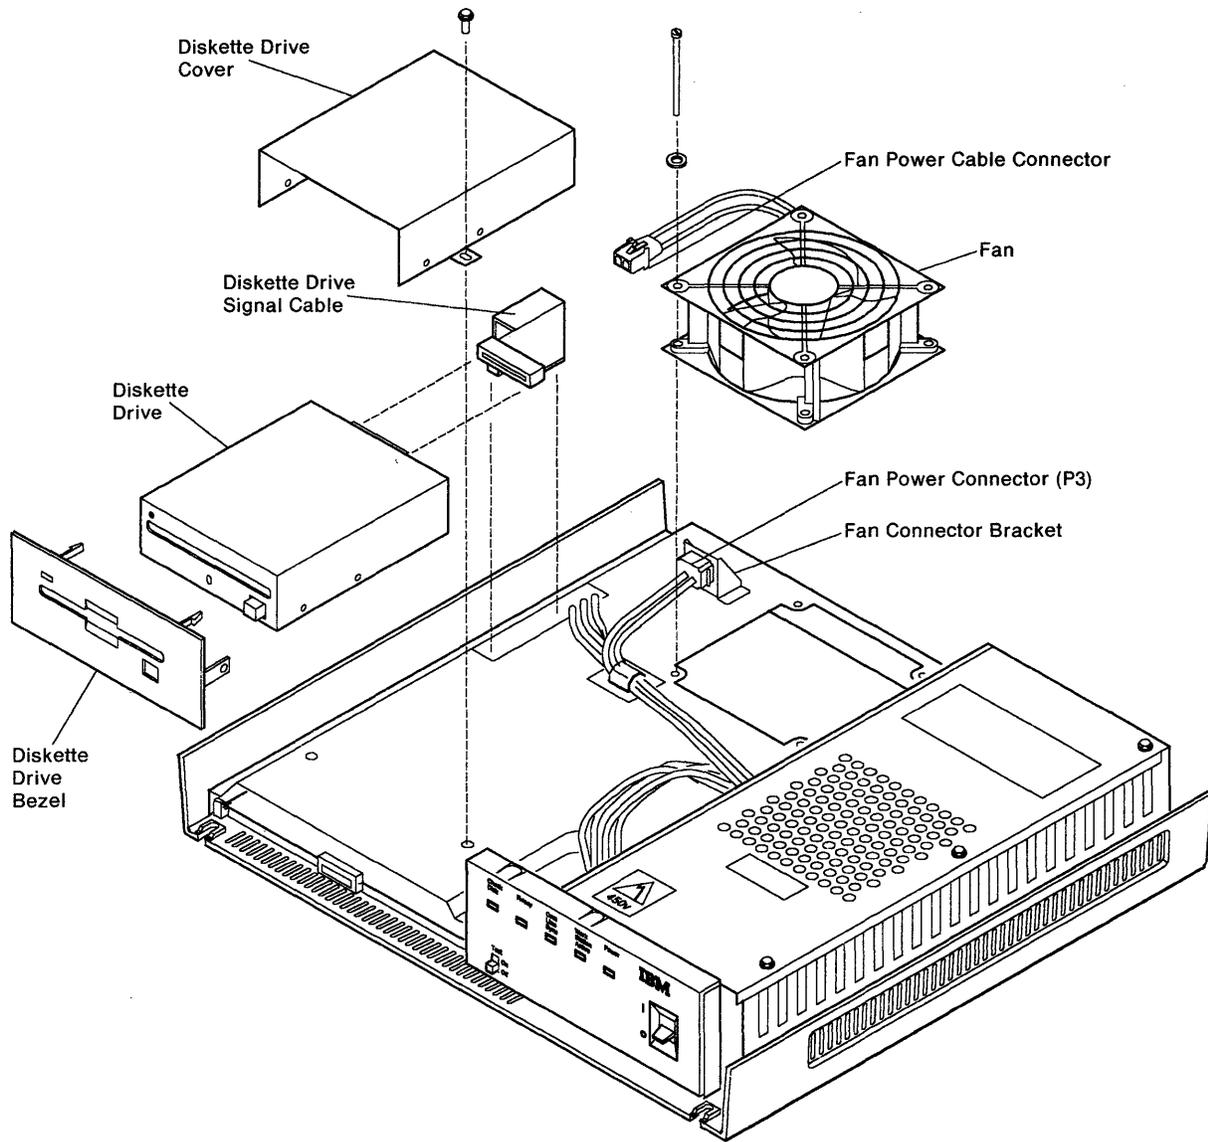

Figure 3-25. Diskette Drive and Fan Removal and Replacement
2. See Figure 3-25 on page 3-28.